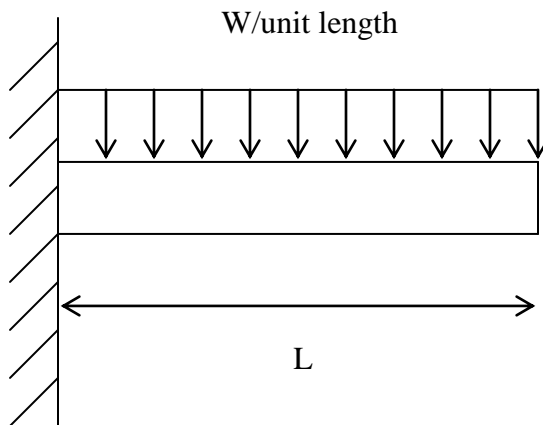

Figure 5
4. A cantilever beam is loaded as shown in Figure 5. Indicate that the maximum deflection is $WL^4/8EI$, where;